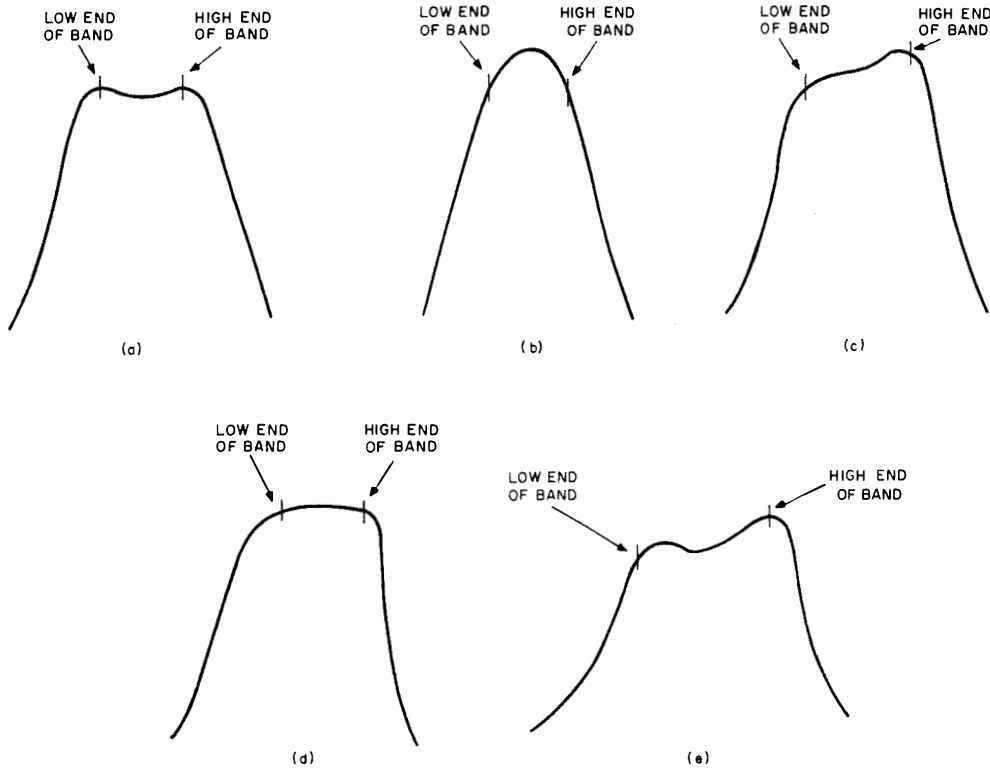

Figure 5-1. Alignment Waveforms
5-16. Complete alignment of the AM-3924(P)/URT consists of tuning the driver and final transformer assemblies. These procedures must be performed whenever rated power output can not be obtained or excessive plate current is noted on any one (or more) frequency band which is not due to aging tubes or component failure. The waveform for each band will assume one of the configurations shown in figure 5-1. A properly aligned coil will generally have the frequency markers for the high and low ends of the band situated at equal amplitudes on the response curve, with maximum flatness between the markers except where shown differently on the waveforms.
- r. Carefully align coil(s) until markers for high and low ends of band are in position on AN/TRM-3 waveform pattern shown in figure 5-1.
- (1) Set T-827/URT KC and MC controls for center frequency of higher of two bands to be aligned according to table 5-1 (i.e., 2.750 MC or 3.750 MC).
- (2) Set AM-3924(P)/URT Key switch at LOCAL KEY.
- (3) Set up AN/TRM-3 and AN/URM-153 to sweep higher of two frequency bands to be aligned.
- (4) Insert marker frequencies as indicated for higher band according to table 5-1.
- (5) Turn blue color coded adjustments on A2 (or A4) and uncoded adjustment on A1 (or A3) until waveform conforms to one indicated on figure 5-1 and table 5-1.
- (6) Set AM-3924(P)/URT Key switch at NORMAL.
- (7) *Set AM-3924 (P) URT Freq MC switch to lower band 2.0-2.5*
- (5) Tune coil form primary and secondary until markers for high and low ends of band are in positions shown, and waveform conforms to waveform shown in figure 5-1 for that frequency band, as called out in table 5-1.